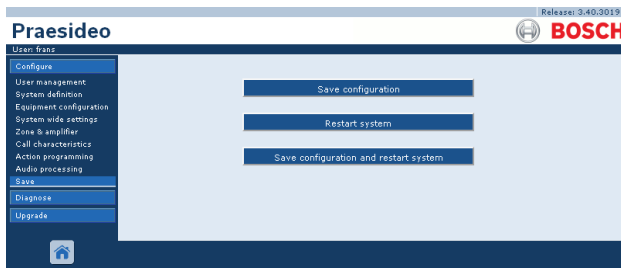

figure 40.5: Save window
- When there are no issues found, and the configuration is done on-line, three buttons are displayed to enable the user to *Save the configuration*, *Restart the system* or *Save the configuration and restart the system*. See figure 40.5. When the configuration file is saved to the network controller, the configuration is not activated until the network controller is restarted. If the new configuration must be saved and activated, click the *Save the configuration and restart the system* button.